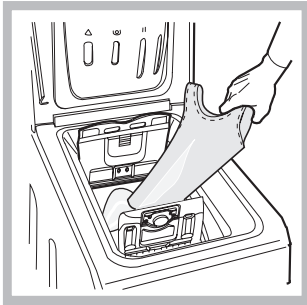

Fig. 3
C) INFÖRSEL AV TVÄTTGODS. (Fig. 3)